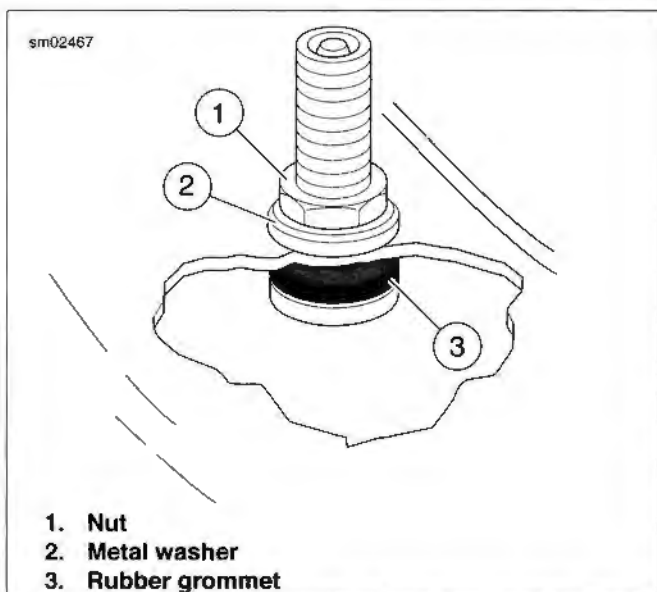

Figure 2-58. Tubeless Tire Valve Stem
1. See Figure 2-58. On tubeless wheels, damaged or leaking valve stems must be replaced. Install rubber grommet (3) on valve stem.
3. Install metal washer (2).